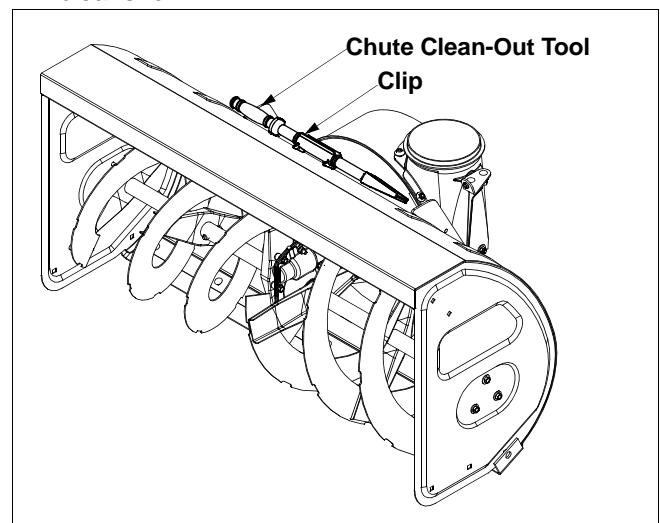

Figure 7
- Remove the clean-out tool from the clip which secures it to the rear of the auger housing. See Figure 7.